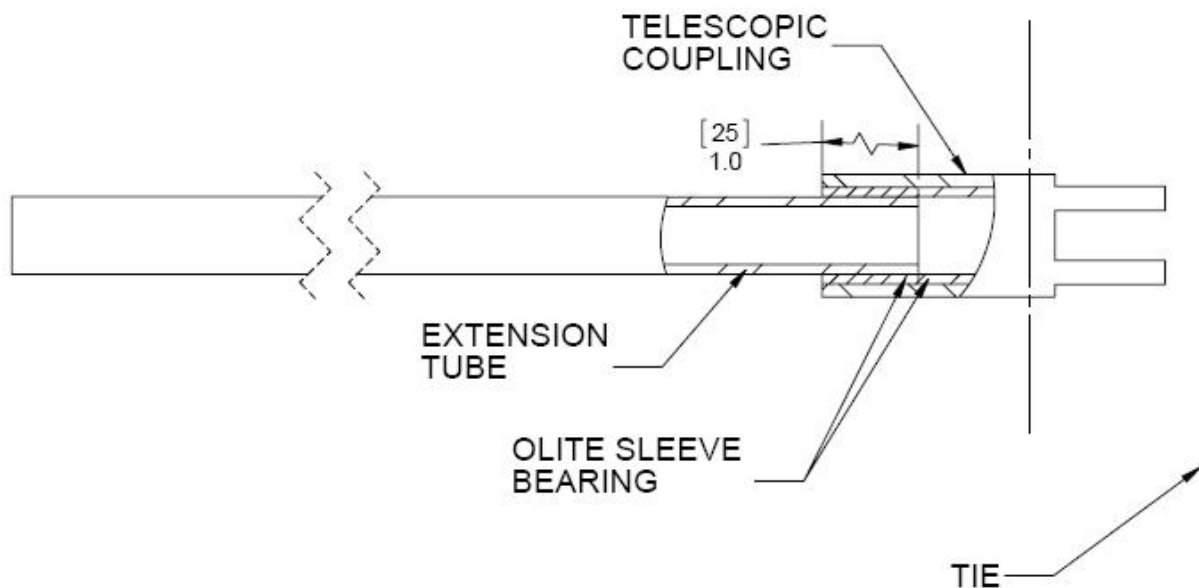

FIGURE 3-6 INSERTING THE EXTENSION TUBE INTO THE TELESCOPIC COUPLING
- 4 Slide the extension tube into the telescopic coupling by 25mm or 1" (Figure 3-6).